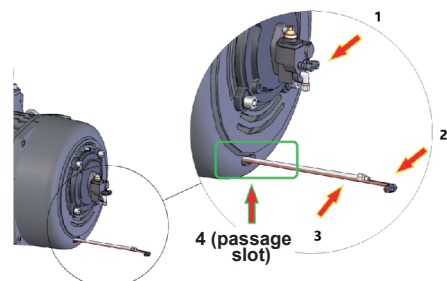

Fig. H.16 - Phase 0030
- Unscrew the head of the fitting (**pos.1 Fig. H.16**) (spanner ch10).
- The fitting heads remain on the ends of the pipes (**pos.2 Fig. H.16**).
- Straighten the copper pipes as much as possible except for the last bend (space for the union heads) (**pos.3 Fig. H.16**).
- Then pass the pipes with union heads through the highlighted slot on the rear fan cover (**pos.4 Fig. H.16**).